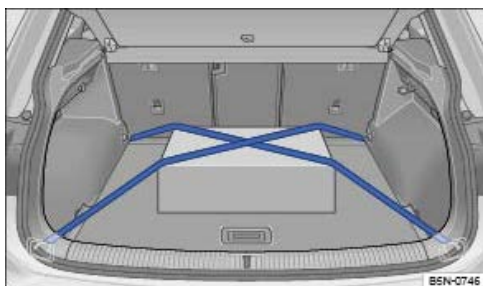

Fig. 219 In the luggage compartment: secure the load correctly.
- Adjust variable luggage compartment floors according to the height of the load. Make sure that the upper edge of the load stands higher than the fastening rings → Fig. 219 → ⚠. If necessary, insert or remove the luggage compartment floor.